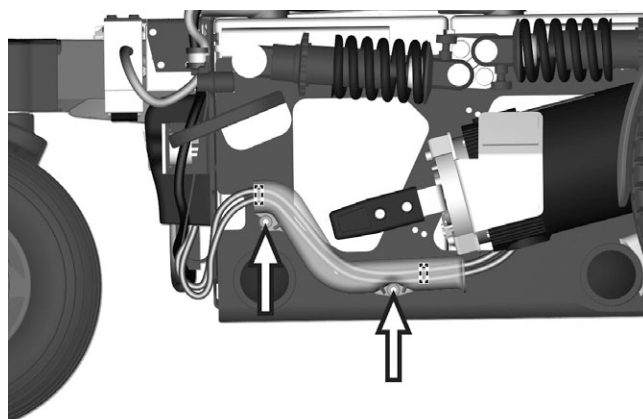

Figure 56. The drive motor cable and the wheel lock cable are fitted with a cable cover.
7. Remove the cable cover by undoing the rear and removing the front screw that holds the cable cover. See fig. 56.